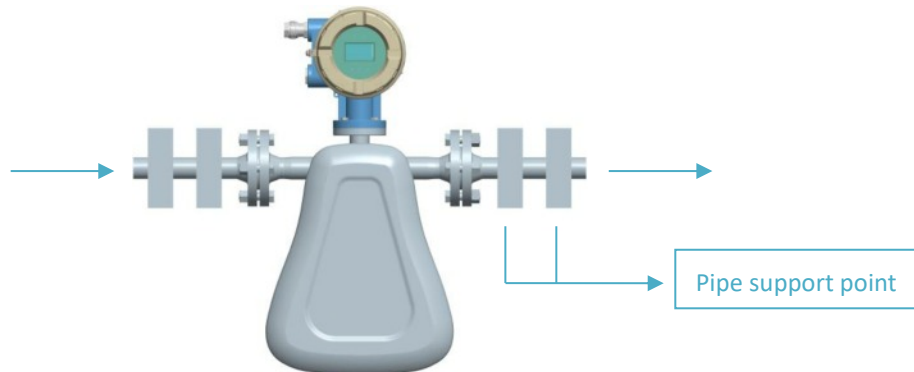

Figure 2-37
2.2.2.2.1 Normal line size: DN10~DN250(Figure 2-37)